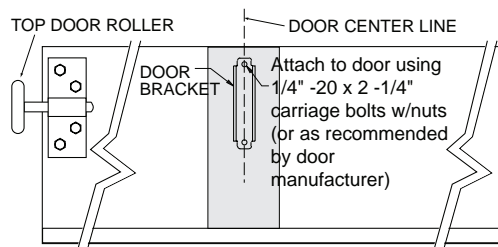

Figure 6
- 2) Position the door bracket on the door as shown in **Fig. 6**, with mounting holes on the door centerline and **even with or above top door roller**.